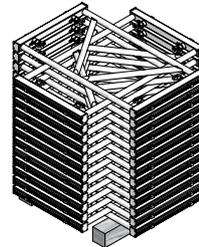

Fig. 35.2 Bundle of frames 110 MEP
- 25 frames 110 MEP: 195 kg (Fig. 35.2)